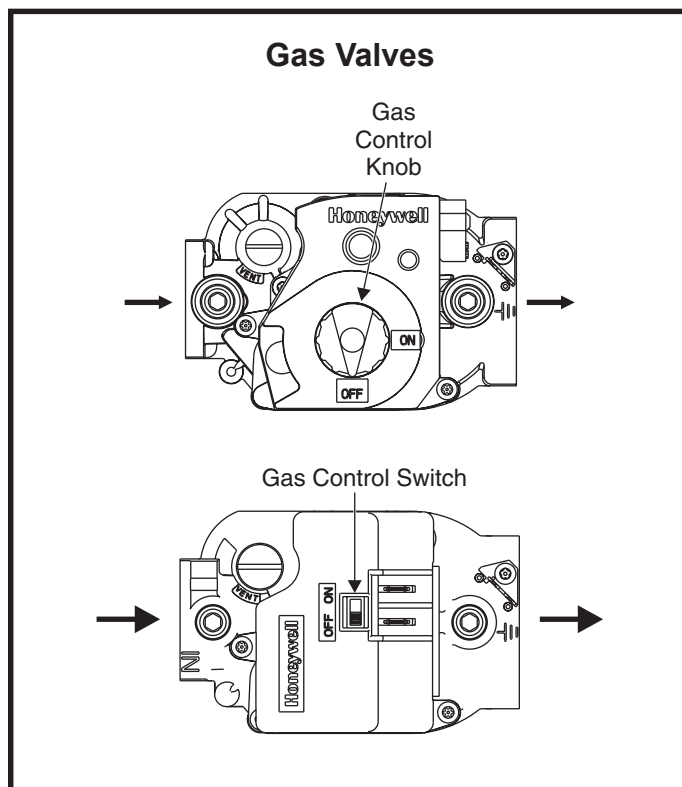

Figure 1
6. Turn the gas control knob, or slide the gas control switch, to "OFF" (see Figure 1).
4. Turn the gas control knob, or slide the gas control switch, to "OFF" (see Figure 1). Do not force.